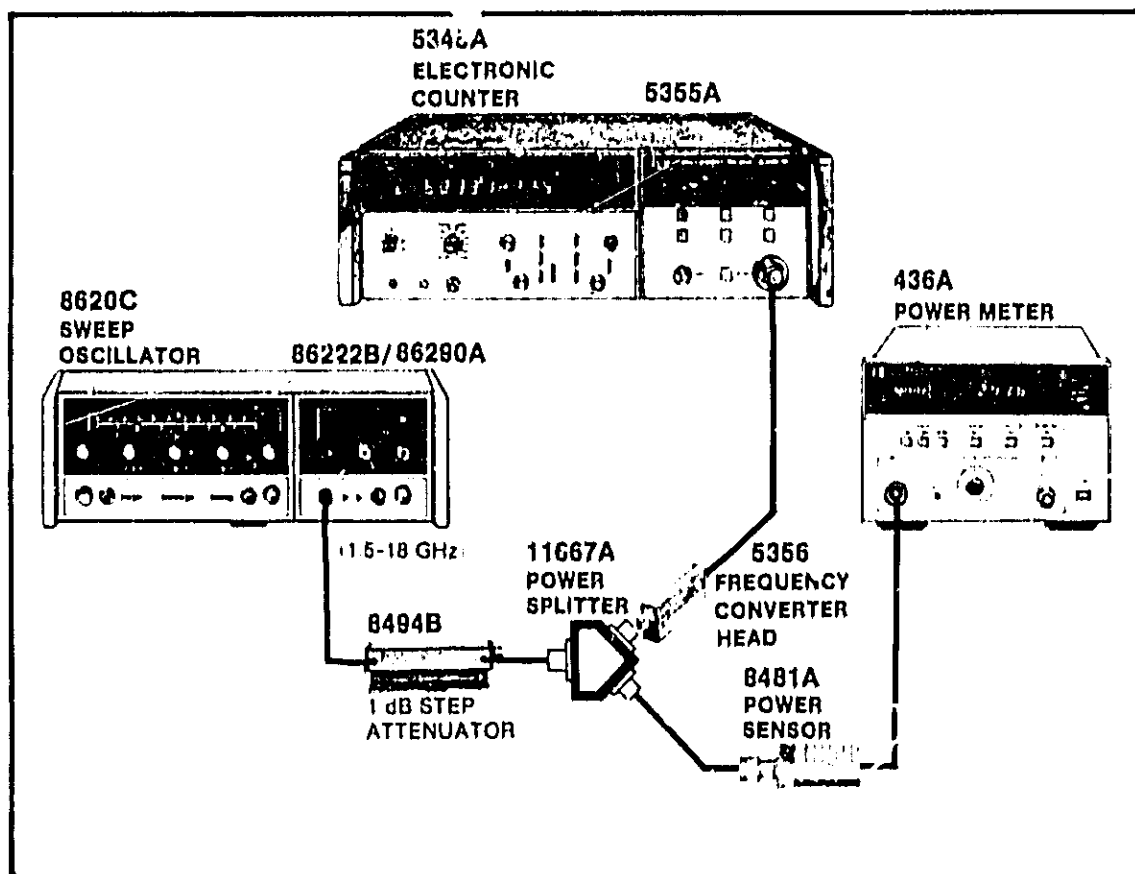

Figure 4-3. 5355A/5356 Input Sensitivity Test, CW Mode 1.5—18 GHz Setup
Setup: Figure 4-3.
- a. **Setup:** Use same setup (Figure 4-3) but adjust the power level of the 86290A for a 436A reading per Table 4-1.